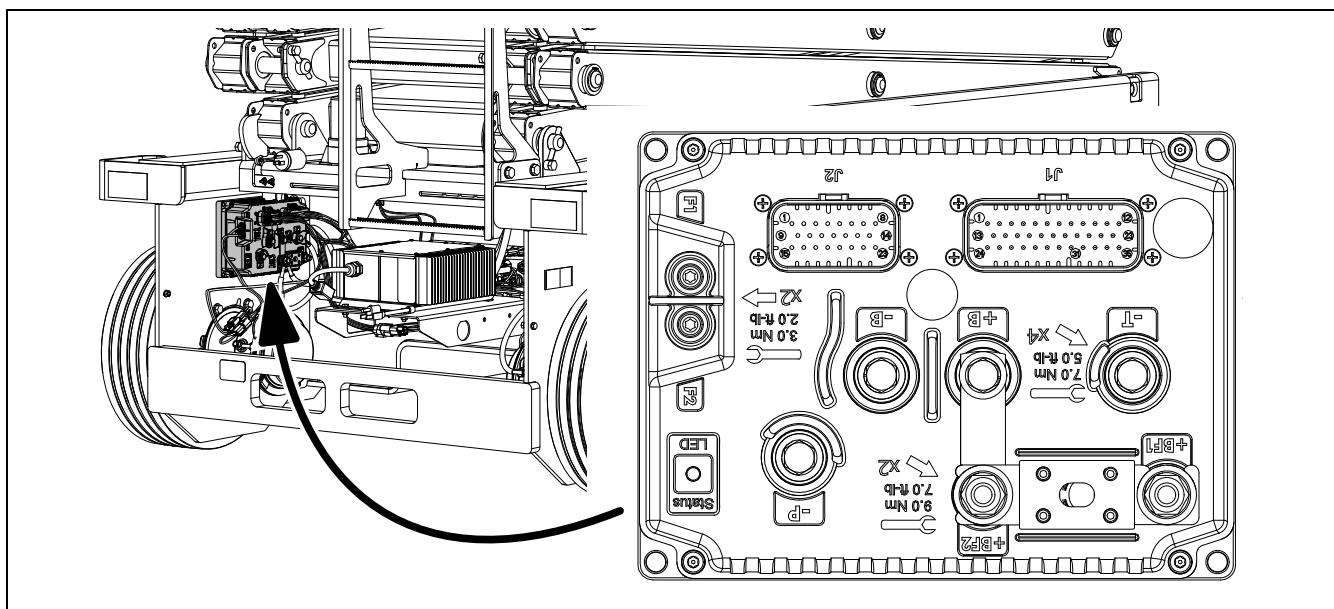

Figure 3-20. ZAPI Power Module Location and Orientation (All models)
The power module is located inside rear machine cover at the left rear of the machine, as shown in Figure 3-20., ZAPI Power Module Location and Orientation (All models). Use the following instructions when replacing the power module.
5. When installing the power module, be sure that the terminals are oriented as shown in Figure 3-20.